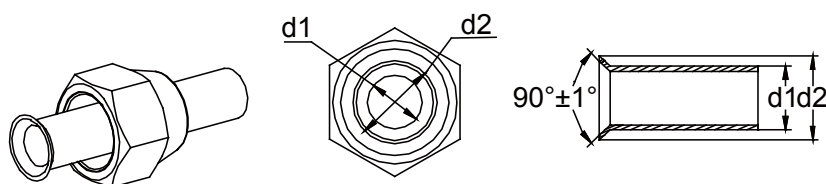

Fig. 4.1
- (1) Use pipe cutter to cut the connection pipe in case it is unshaped.
- (2) Keep the pipe downward in case cutting scraps get into the pipe. Clear away the burrs after cutting.
- (3) Remove the flared nut connecting indoor connection pipe and outdoor unit. Then use flaring tool to fix the flared nut into the pipe (as shown in Fig.4.1).
- (4) Check if the flared part is flaring evenly and if there is any crack.